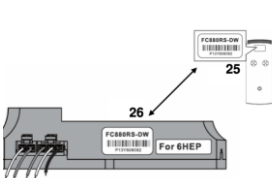

Fig. 10
1. Ensure that model number on receiver (#26) and the transmitter (#25) are the same (Fig. 10).